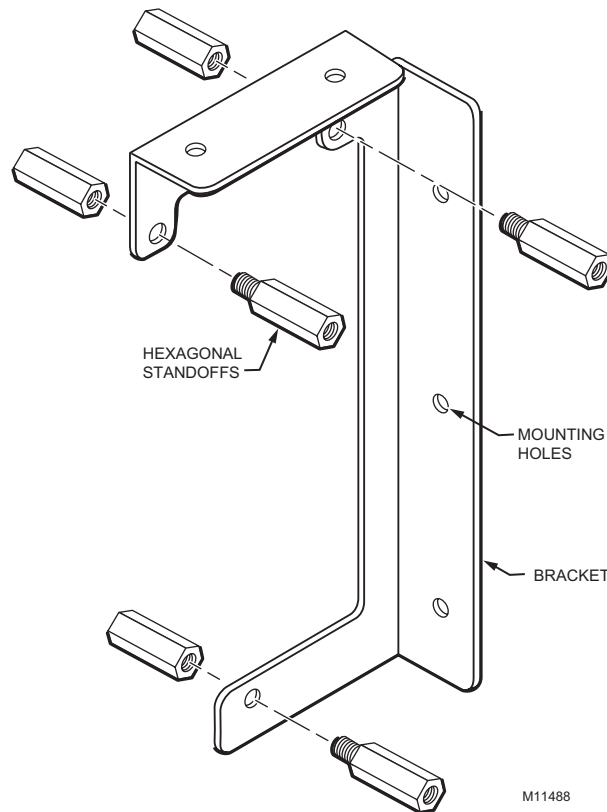

Fig. 1. Attaching standoffs to 205840A Tandem Mounting Kit bracket.
1. Attach the six 1/2 in. (13 mm) hexagonal standoffs to the bracket as shown in Fig. 1.